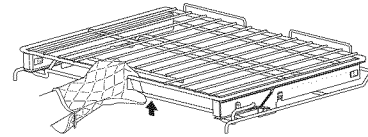

Figure 18: Releasing Glide rack lock
1. Grasp the locking bar beneath the handle as shown in Figure 18. Pulling up on this bar unlocks the rack.